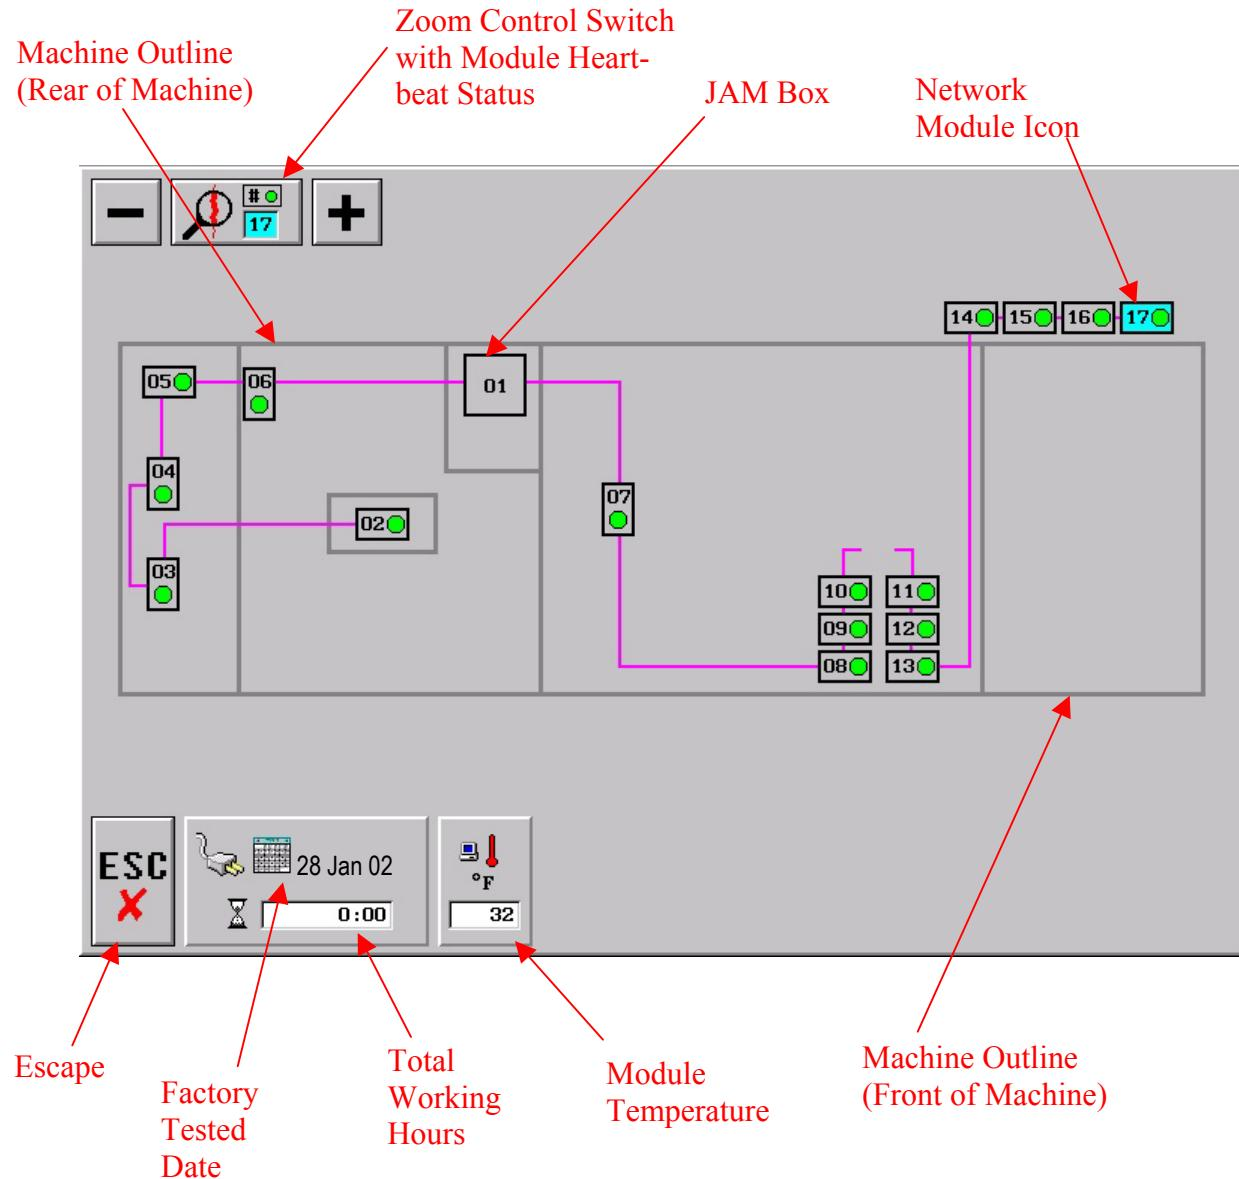

Fig. C-7
**See Page C-6 (Fig. C-7) for Details**